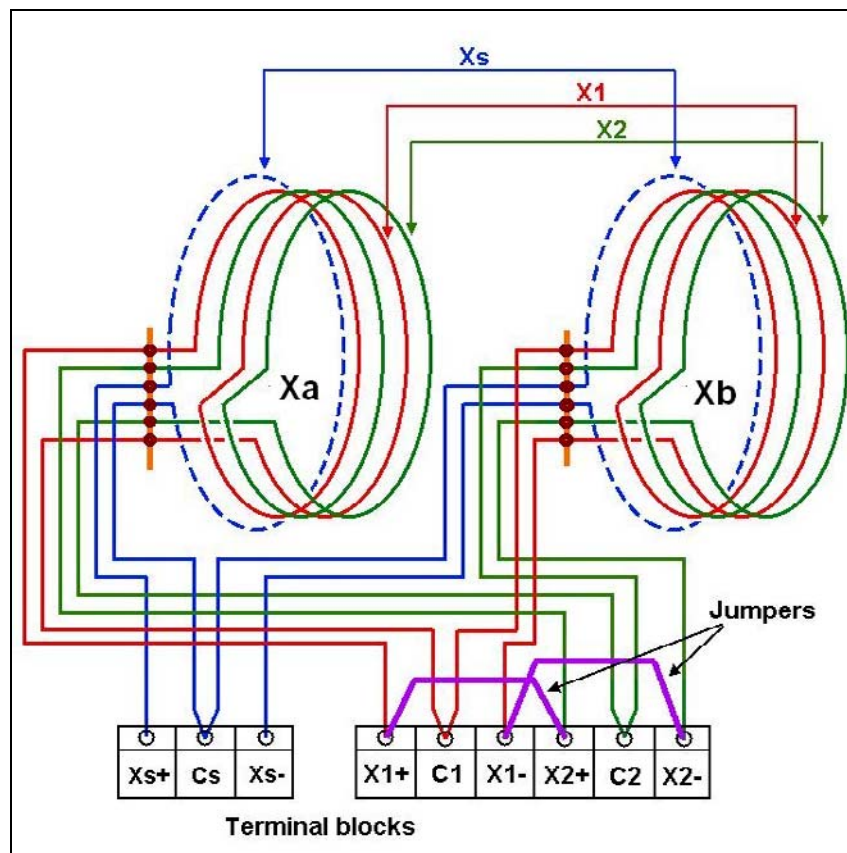

Fig. 3: Electrical diagram of X-axis.
- These can be supplied in 2D and 1D versions (see also Fig. 3):